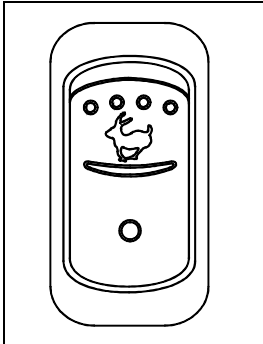

FIGURE 5 : FAST IDLE BUTTON
4. Turn the ignition key to the "ON" position, start the engine and set the RPM at fast idle (figure 5).
3. Turn the ignition key to the "ON" position, start the engine and set the RPM at fast idle. (refer to figure 5)